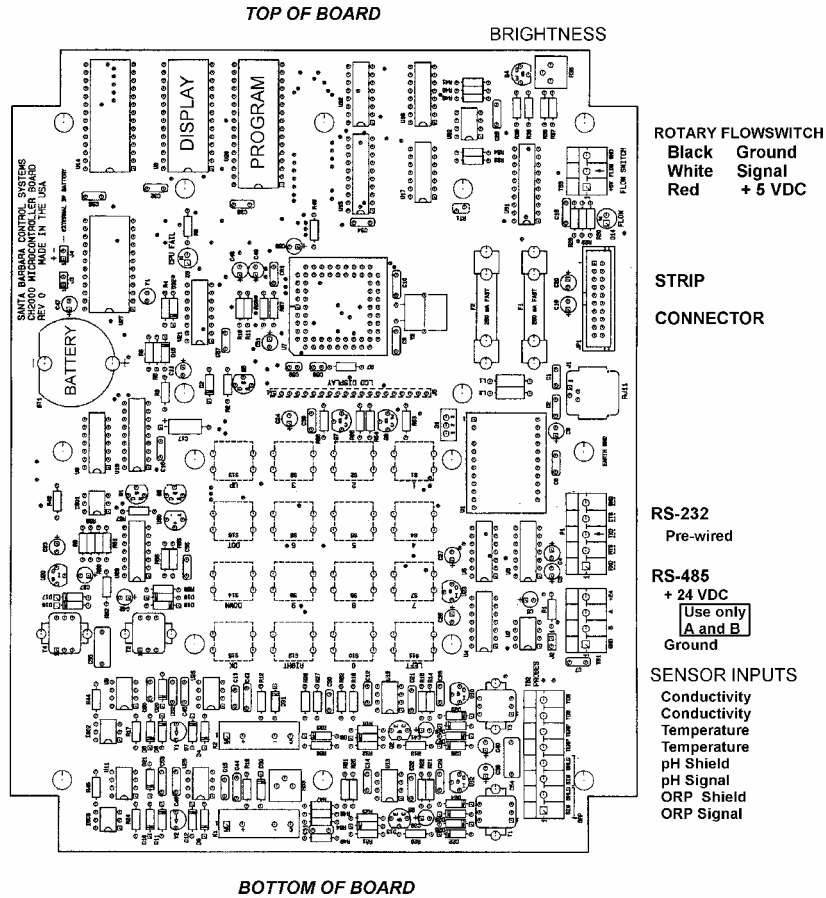
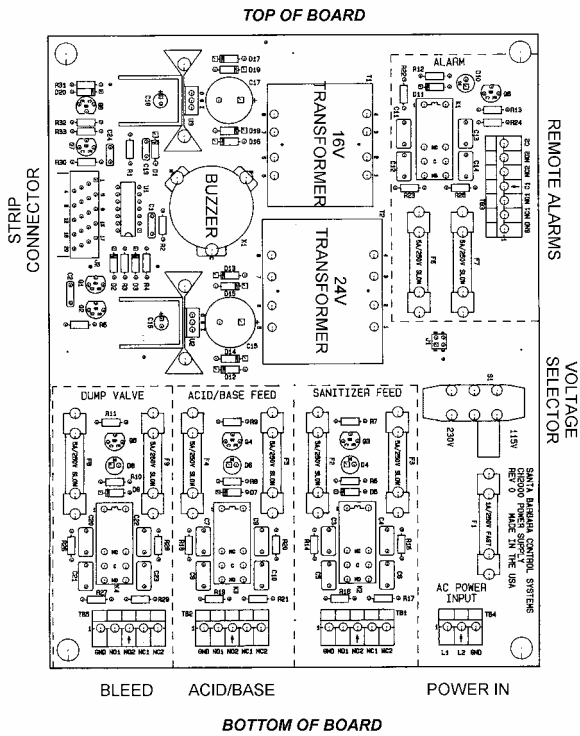

Figure 5 - Mother Board
Figure 6 - Power Board
All the electronic and electrical components are mounted inside the cabinet on two separate PC Boards, the Mother Board (Figure 5) and the Power Board (Figure 6). Outlets are provided on the bottom of the cabinet for ½" conduits connectors.
The internal wiring and labeling on the power board of the controller (Figure 6) are as follows:
The CHEMTROL™ PC is a dual-voltage controller with a voltage selector switch located inside the cabinet on the Power Board (see Figure 6). Before connecting the unit to an external power supply, make sure that the voltage selector switch is set to the proper AC power input: 115 V or 230 V.
- the Mother Board (Figure 5) located behind the front panel contains the software, memories and operating electronics,
- the Power Board (Figure 6) located in the back of the cabinet and containing the power input and the output relays.
The schematics in Figure 5 and Figure 6 show the location of the key components. In addition, the components are also labeled on the PC boards themselves.
The Power Board (Figure 6) is mounted on the back panel of the controller cabinet. As shown on the schematic, it contains all the high voltage (115 or 230 V) circuits and components for inputs and outputs.
The Mother Board (Figure 5) is mounted directly behind the face panel of the controller and contains all the low voltage circuitry including the microprocessor and program chips, the LCD display and the keyboard pad. It is also used to connect all the sensor inputs.
All sensor connections are on the Terminal Barrier strips on the Mother Board, as shown on Figure 5. The pH and ORP sensors are connected externally to the bulkhead BNC connectors on the left side of the cabinet.
The temperature sensor has two leads, black and red. The combined conductivity/temperature sensor has four leads: white, green, red and black. Connect all leads as shown on the Mother Board schematic (Figure 5).
The buzzer is located near the top of the Mother Board, as shown on Figure 5. It can be turned on for specific alarm conditions through the software program or for all alarms using the Audio Alarm Submenu 6.2.1 (see page 21).
The brightness of the display can be adjusted with the potentiometer marked R-36 that is located in the upper right corner of the Mother Board (Figure 5).
The 3V Backup Battery is located on the left side of the Mother Board (Figure 5). It is used to maintain the memory settings in case of loss of AC power. This battery is designed to last for several years in normal operation and for up to six months if the AC power is shut off.
Option REM uses modem-to-modem communication between the remote computer and the on-board data modem connected to a standard US-type, 6-position RJ12 phone jack located on the middle right hand side of the Mother Board (Figure 5). If possible, connect the controller to an analog outside telephone line dedicated for remote operation. If the line is also used for voice communications, users should wait for at least three rings to allow the modem to answer a call.
Option ETHCOM uses Ethernet / Internet communication between the remote computer and the on-board Ethernet modem. Connect the controller RS485 A & B ports to the Black and Red wires of the cable provided with the Ethernet modem. Set the controller as a slave by orienting the jumper J9 as marked on the motherboard (Figure 5). Then, connect the Ethernet modem to the TCP/IP network via its standard RJ45 TCP/IP jack.
Option RS485 establishes a direct connection between one on-site computer and the controller through a dedicated pair of wires (3,000 feet maximum). Connect the controller RS485 A & B ports to the computer RS485/RS232 converter. Set the controller as a slave by orienting the jumper J9 as marked on the motherboard (Figure 5).
Any controller can be set up at any time as either host or slave by orienting the jumper JP3 as marked on the motherboard (Figure 5).
The black, red and white leads should be connected to the contacts marked "FLOW SWITCH" on the terminal board marked TB3 on the right side of the Mother Board (Figure 5), as indicated: